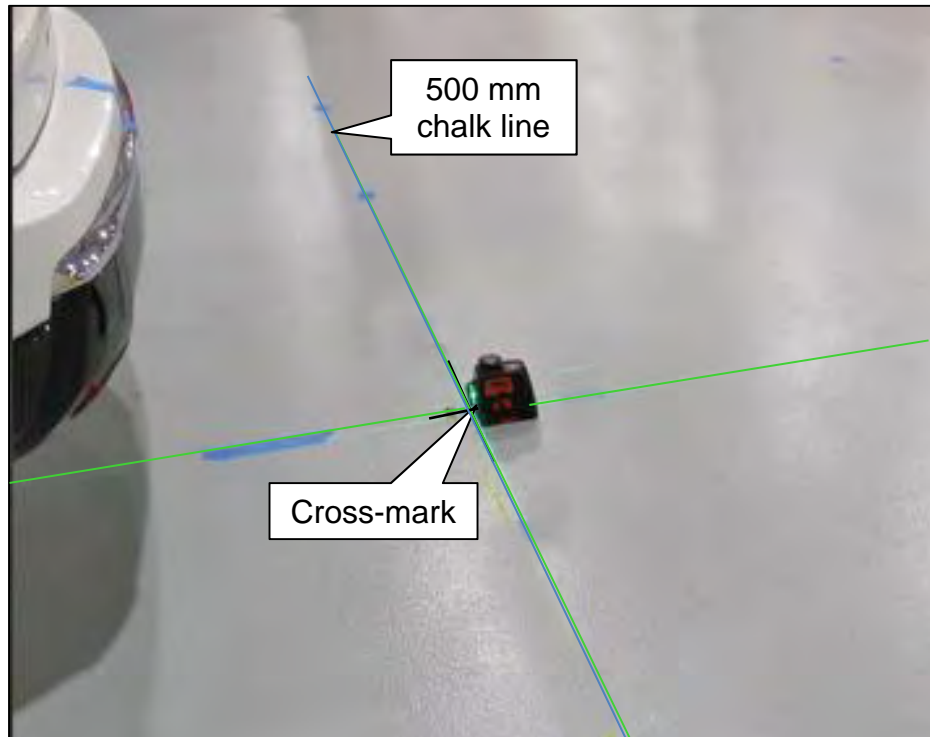

Figure 85
56. Place a cross-mark on the floor below the laser line (Figure 85).